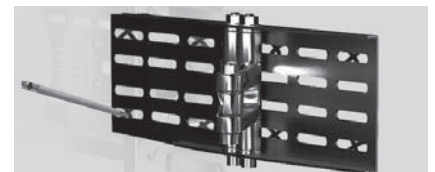

Figure 4
you get another person to help you attach the Wall Plate to the wall. You may want to mark the stud with a pencil before drilling in the Hex Screw (Figure 4). **Drill pilot holes with 1/8" inch drill bit.** Once the Wall Plate is held in the correct position on the studs, screw 1 Hex Screw and 1 Hex Washer (T & U) in the upper left mounting hole of the Wall Plate into the stud using the included Hex Wrench (W). Do not screw too tight until after all the screws are in.